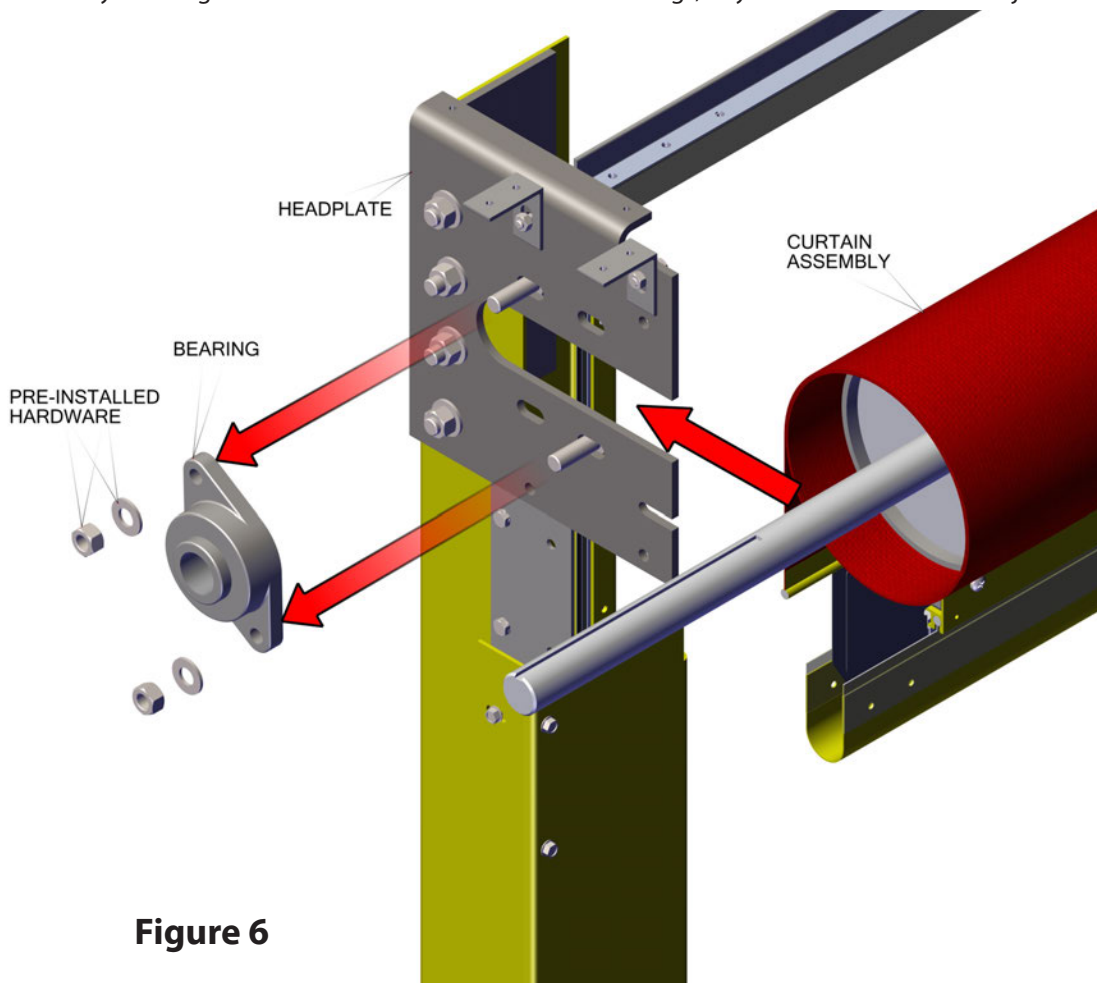

Figure 6
- Remove the pre-installed bearing from both headplates, as shown in Figure 6.